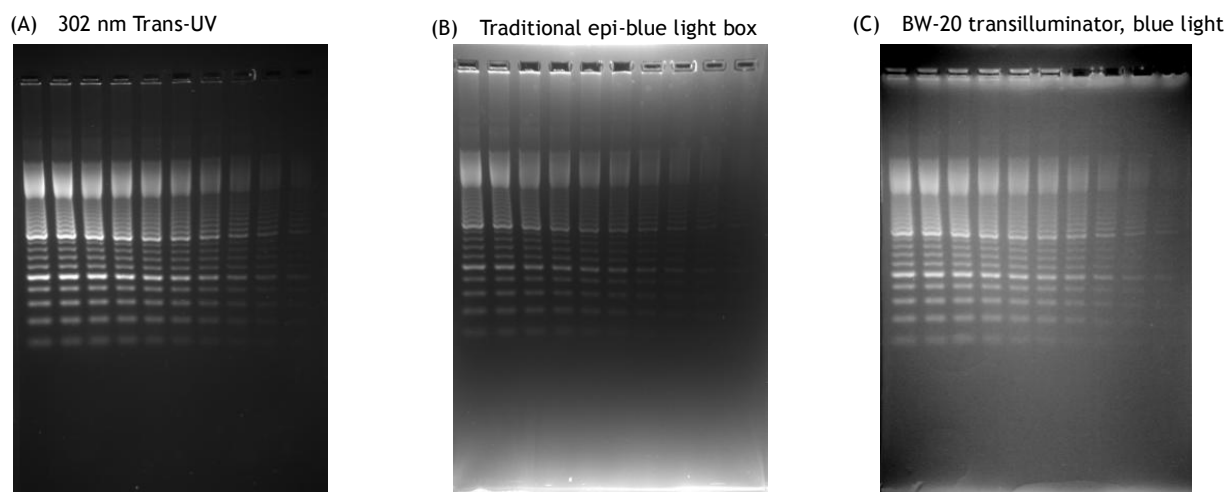

Figure 1. SYBR® Safe stained agarose gel observation in KETA S system.
According to the excitation and emission profile, SYBR® Safe nucleic acid dye have excitation/emission profile with 280, 502/530nm. User can get the strongest signal by using blue LED to excite. Although using of UV transilluminator can have clear result without background interference, it takes 2 ~ 3 seconds exposure time to observe. However, it takes less than 0.5 seconds exposure time by using of blue light excitation. Besides, blue light is a safe light source that will not cause the sample degradation but UV light will. When compare the result in picture (A) and (C) in both figure 1 and 2, they both have the same detection limit when using the same agarose gel. It was proved that detect of SYBR® Safe signal through BW-20 can have the same result as UV transilluminator.
Comparing of picture (A) with (B) in figure 1, using of the traditional epi-blue light box, it would be difficult to quantify the sample as the sample signal was not evenly excited. As picture (C) in both fig. 1 and 2, they're easy to see BW-20 provides more uniform transparent light intensity which makes the quantification result precisely.